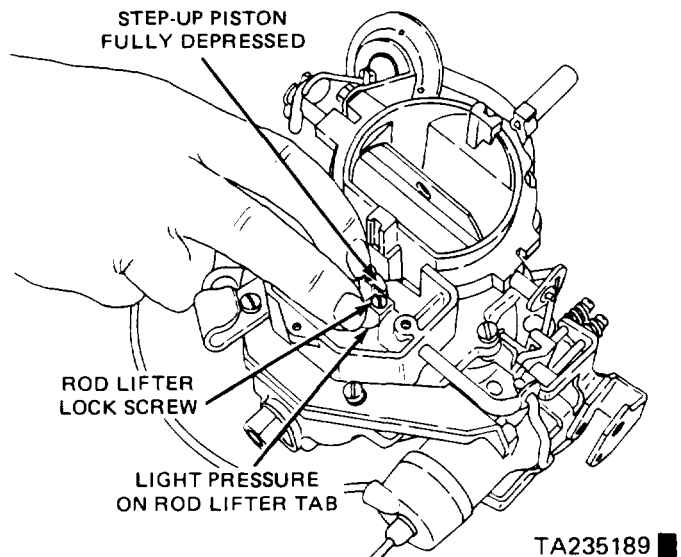

Figure 12-13. Adjusting the Step-Up Piston.
(4) Press the step-up piston all the way down and push moderately on the rod lifter tab so that you can tighten the rod lifter lock screw (figure 12-13).